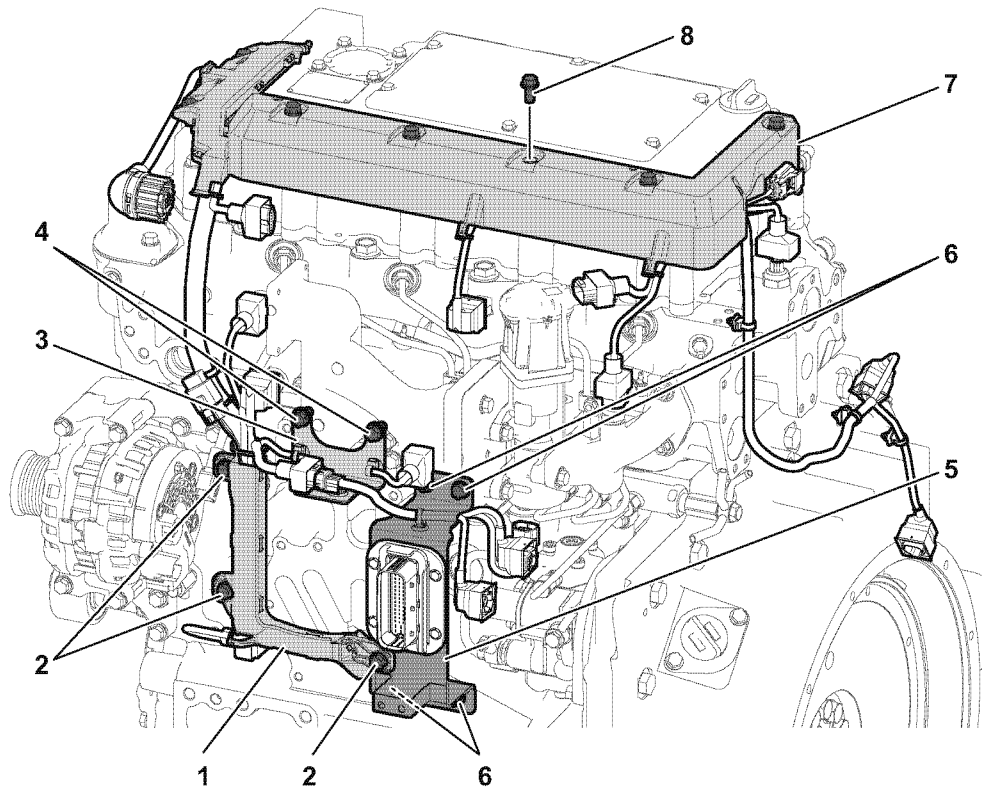

Fig.70-15
2. Loosen the M8 bolts \times 3 (2, Fig.70-15) that fasten the harness cover (block) (1, Fig.70-15). Loosen the M8 bolts \times 2 (4, Fig.70-15) that fasten the harness clip bracket (3, Fig.70-15). Loosen the M8 bolts \times 4 (6, Fig.70-15) that fasten the relay connector bracket (5, Fig.70-15).
3. Remove the M8 bolts \times 7 (8, Fig.70-15) that fasten the harness cover (bonnet) (7, Fig.70-15).